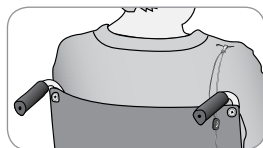

Fig. 32
- Out of the patient's reach (Figs. 32 and 33).